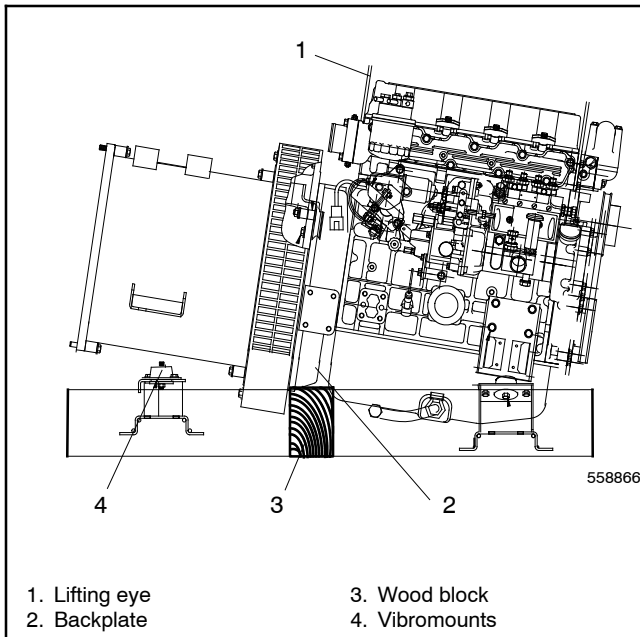

Figure 4-9 Supporting the Generator, Typical
7. Attach a hoist hook to the engine lifting eye. See Figure 4-9.
8. Remove the vibromount locknut, small washer, bolt, and large washer from each vibromount. See Figure 4-9.
9. Raise the alternator end and place a wood block under the backplate. Lower the alternator until the wood block supports the backplate. See Figure 4-9.